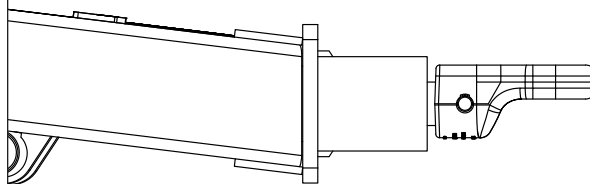

FIG. 3-3
**NOTE:** Hitch tang can be flipped providing a drawbar connection height difference of 2 7/8" (Figure 3-3). Position the hitch tang to help assure a level cart when loaded, or the rear of the hopper slightly higher than the front, to maintain rear slope cleanout. Whenever the hitch tang is flipped, the driveline clearances need to be reviewed.